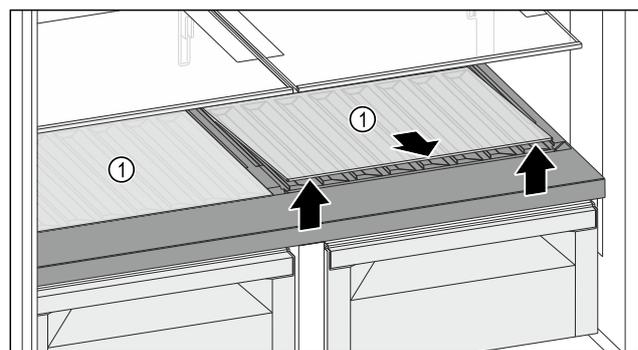

Fig. 122
- ▶ Lift one or both glass shelves Fig. 122 (1) at the front and remove.
- ▶ Store the glass shelf(shelves) Fig. 122 (1) in a secure place outside the appliance.